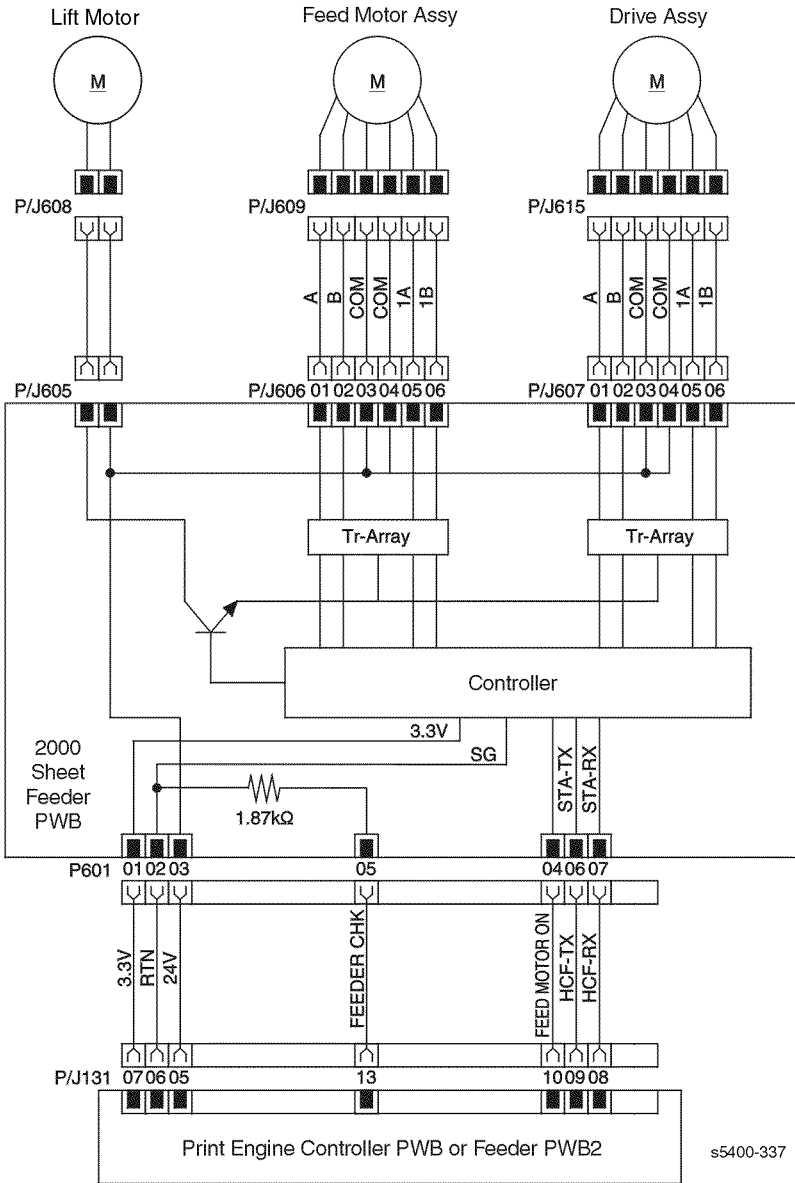

Figure 217 2000-Sheet Feeder - Wiring Diagram and Signal Information Between Components
- Figure 217 2000-Sheet Feeder - Wiring Diagram and Signal Information Between Components (page 469)